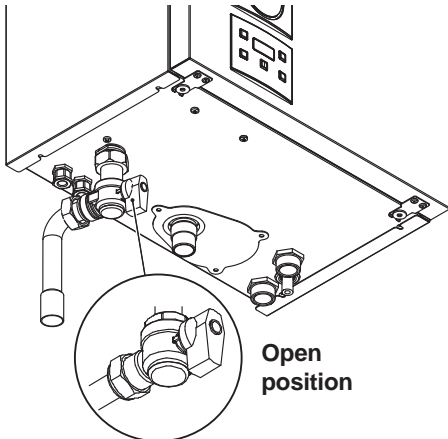

Fig. 2.3
- Check that the gas supply cock located in the lower part of the boiler and the valves are open Fig. 2.3.